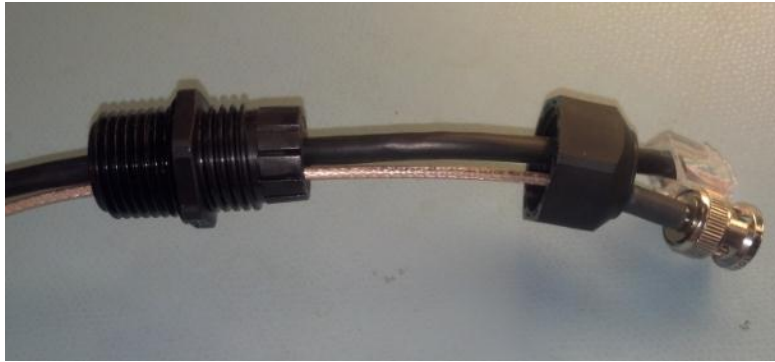

Figure 13: Push Gland into Gland Housing
3. Push the gland rubber into the gland housing (See Figure 13)